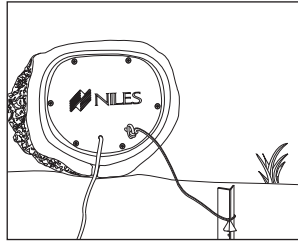

Figure 12.
- Pick a spot in the ground which the loudspeaker will cover and drive the security stake all the way into the ground until the cable holder is completely under the surface of the ground, as shown in **Figure 12**.